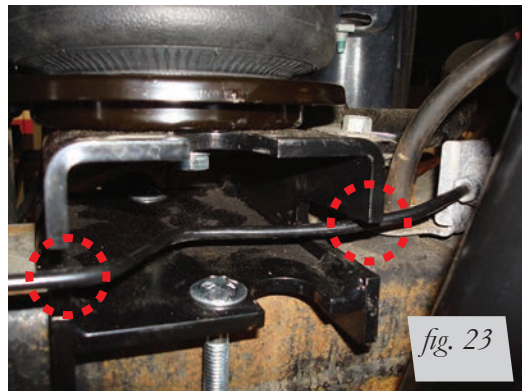

fig. 23
- The lower brackets have recesses in them to make clearance for the hard brake lines (Figs. 23 & 24). If necessary, adjust the brake line so it is not rubbing on the lower bracket.